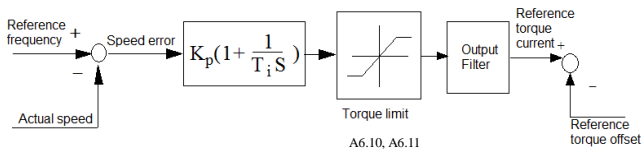

Fig.6-15 Speed regulator
1. The structure of speed regulator (ASR) is shown in Fig.6-15. In the figure, K_P is proportional gain P. T_I is integral time I.